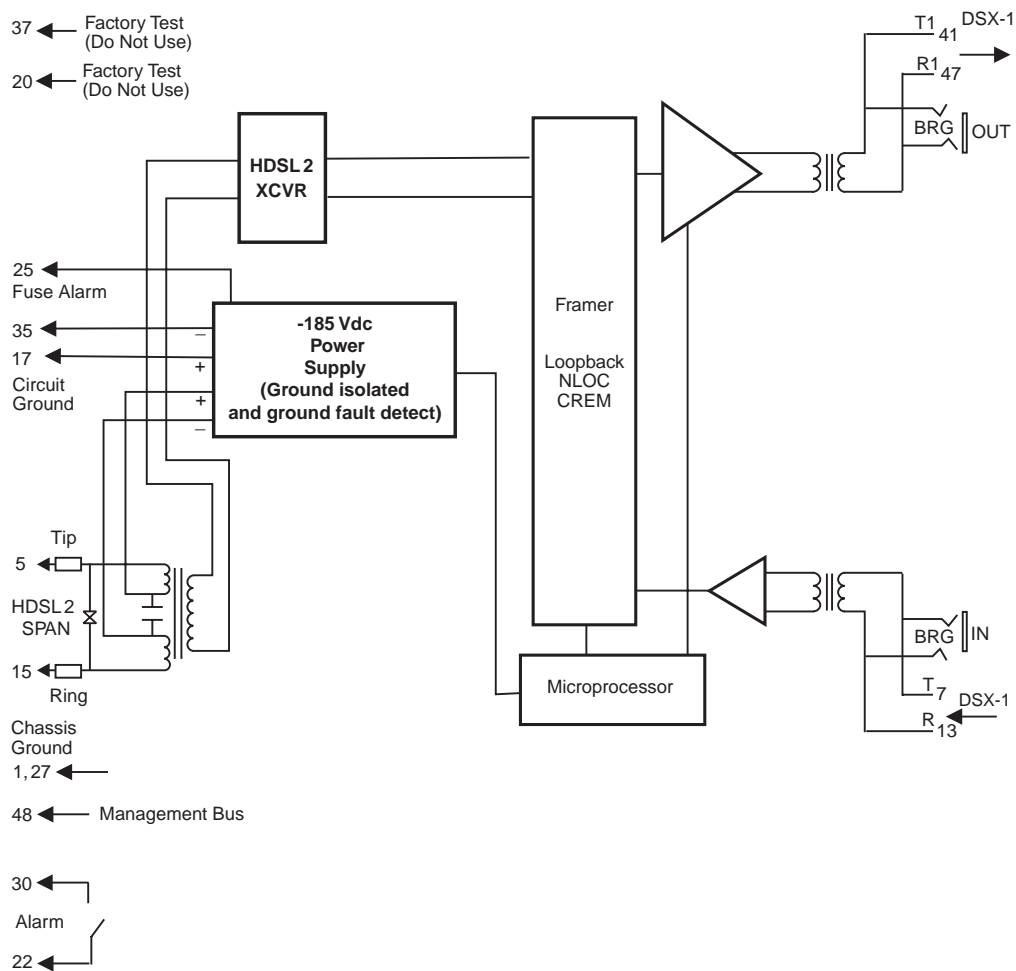

Figure 33. H2TU-C-202 List 3E Block Diagram
A block diagram of the H2TU-C-202 is shown in Figure 33. The H2TU-C-202 receives a 1.544 Mbps DSX-1 data stream from the DSX-1 digital cross connect interface. The H2TU-C contains a DS1 frame synchronizer controlled by an 8-bit microprocessor that determines the type of framing on the DS1 stream and synchronizes with it. The H2TU-C recognizes Superframe (SF), including D4, or Extended Superframe (ESF) framing. When the data is unframed, the H2TU-C arbitrarily defines a frame bit.